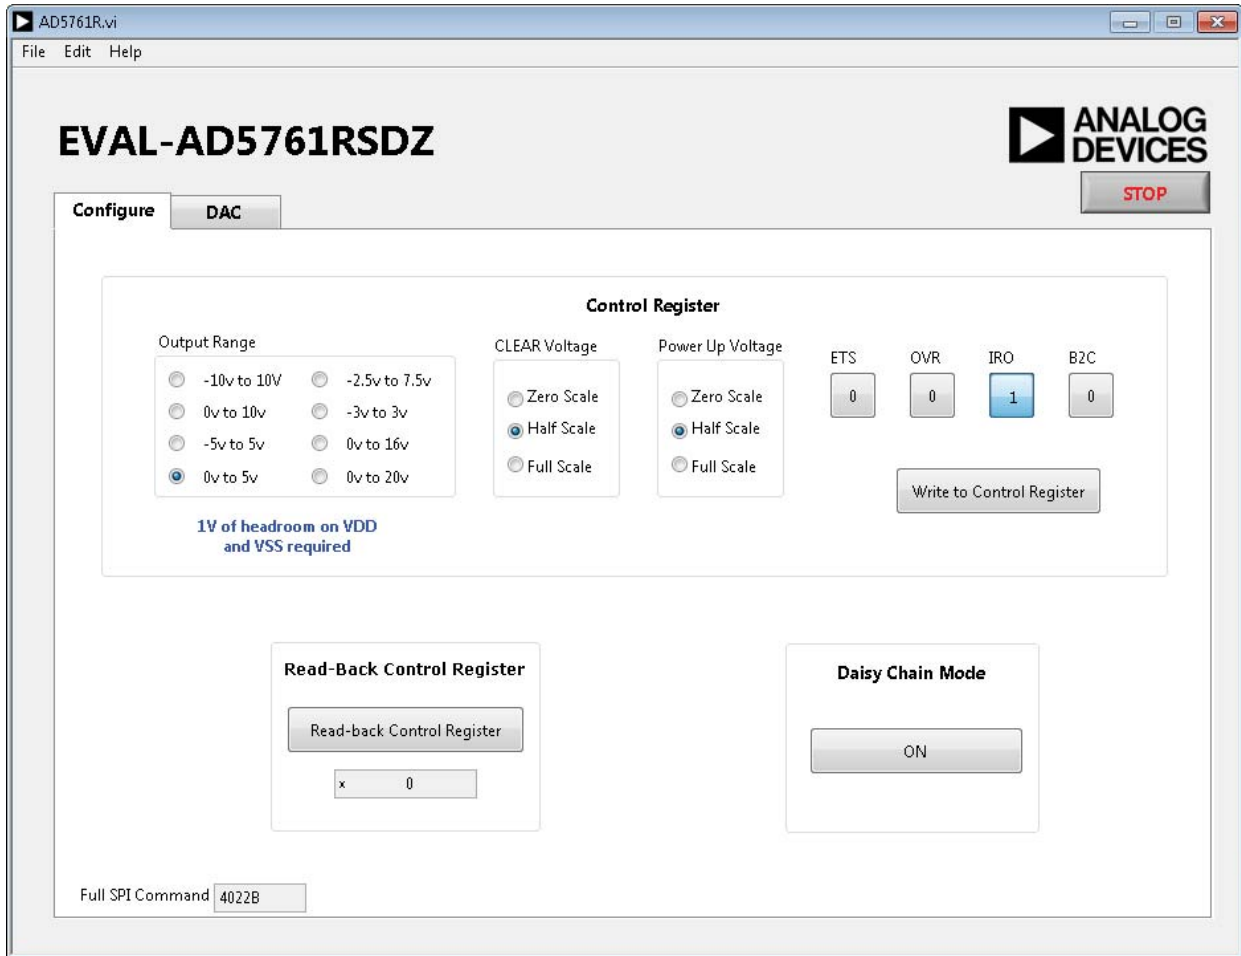

Figure 7. Evaluation Software Main Window, **Configure** Tab
1. From the **Start** menu, click **Analog Devices > AD5761R > AD5761R Evaluation Software**. The main window of the software opens (see Figure 7).
The **Configure** tab allows access to the control register and the mode of the daisy-chain functionality of the device. Figure 7 shows the **Configure** tab in the main window.
The **AD5761R** requires an initial command to write to the control register to remove the output clamp to ground. A dialog box appears as a reminder to write to the control register (see Figure 6). During the same write, configure the **AD5761R** as necessary to modify the default values for the power-up voltage (**Power Up Voltage**), voltage output range (**Output Range**), clear voltage (**CLEAR Voltage**), overrange (**OVR**), bipolar range coding (**B2C**), thermal shutdown alter (**ETS**), and internal reference mode (**IRO**). (See Figure 7.)